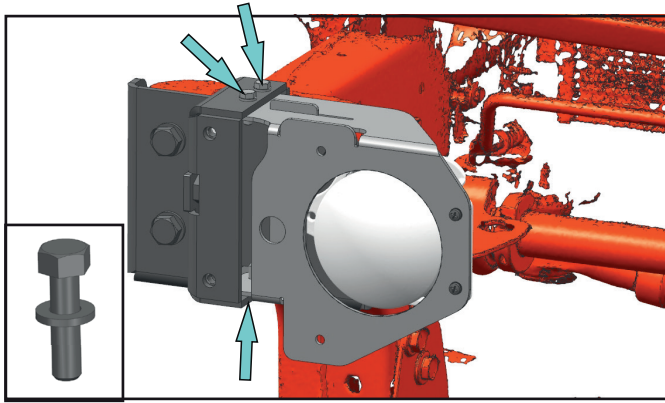

Fig. 12
11. Install Fog light right bracket (item 4) and Fog light left bracket (item 5) on brackets (item 2, 3). Fix it using bolts M6x20 (item A), washer 6 mm (item H) (Fig. 12,13). Fix fog lights wiring using cable ties (item L) and cable clips (item M) on the vehicle's frame.